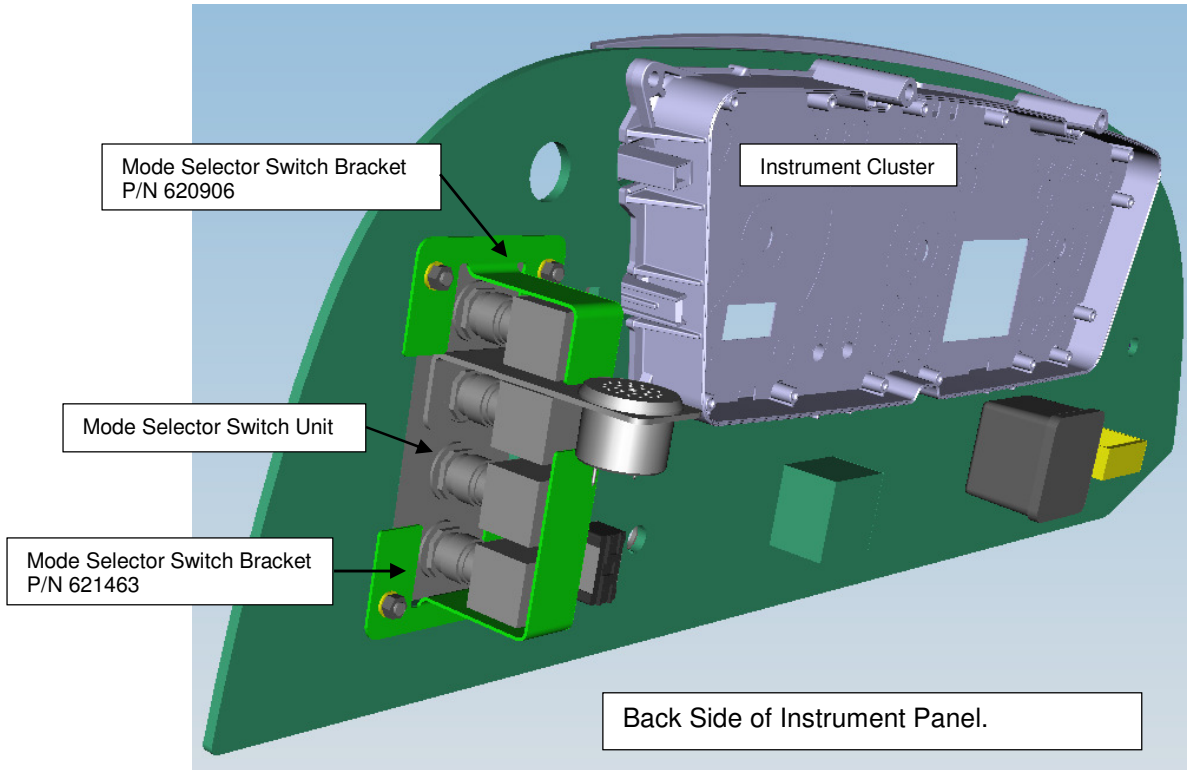

Figure 2: Mode Selector Switch Brackets.
11. Install the new mode selector switch bracket NF P/N 620906 on the backside of the instrument panel over the top side of the mode selector unit and secure the switch bracket with two of the nuts and washers removed previously. Figure 2.
12. Install the new mode selector switch bracket NF P/N 621463 on the backside of the instrument panel over the bottom side of the mode selector unit and secure the switch bracket with two of the nuts and washers removed previously. Figure 2.